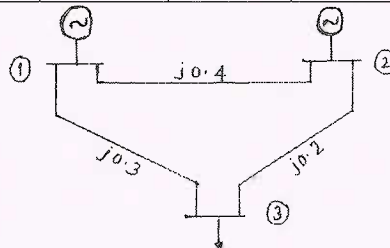

Fig. Q1 (b)
- b. Fig. Q1 (b) shows a three bus power system, using Gauss-Seidal method determine the bus voltages at the end of first iteration. The values shown are line impedance in p.u.. Bus data are given in Table Q1 (b). (10 Marks)